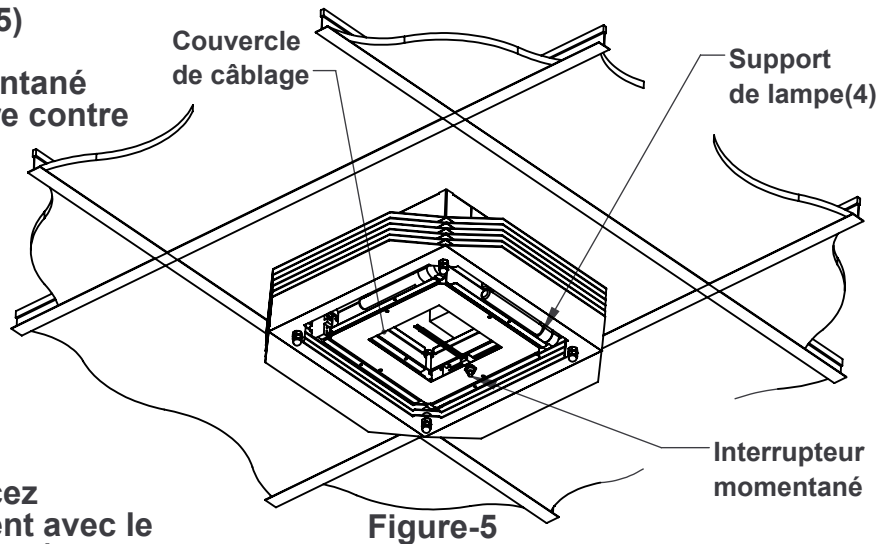

Figure-5
- 2) Remove bottom plate and set it aside. This will reveal access to the lamp compartment. Notice four PL lamp-holders attached to specular reflectors. (see Figure-5)
- 3) Push the four Philips 9W TUV lamps into the lampholders ('click') while wearing gloves. (see Figure-5)